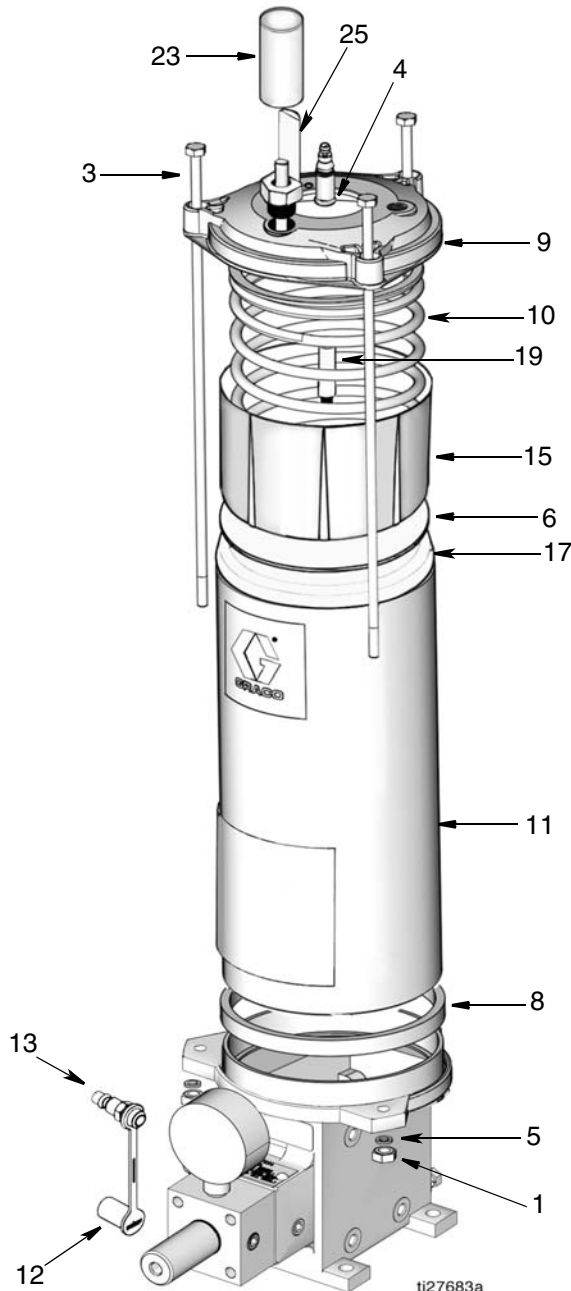

FIG. 11:
Refer to FIG. 11 for reference numbers used in the following instructions.
4. Remove the fill stud (13), if necessary (FIG. 11).
5. Remove hex nuts (1) and lock washers (5) from the tie rods (3) (FIG. 11).
6. Remove tie rods (3) from reservoir cap (9) (FIG. 11).
7. Lift the reservoir (11) from the pump, keeping the reservoir cap (9) in position on top of the tube (FIG. 11).
8. Slide the reservoir (11) away from the reservoir cap (9) until it is free from the follower cups (15 and 17) (FIG. 11).
9. Remove the gasket (8) from the pump (FIG. 11).
Lubricate the follower cups (15 and 17) (FIG. 11) and the inner diameter of the reservoir tube (11) before reassembling the pump assembly with the same lubricant used in the system.
1. Slide the reservoir (11) over the follower cups (15 and 17) upwards until it contacts the reservoir cap (9), being careful not to distort the follower cup lips.
2. Install a new gasket (8) on the pump.
3. Place the reservoir (11) on the gasket (8) and rotate the reservoir cap (9) until the holes in the cap line up with the holes in the pump.
4. Install the tie rods (3) through the holes in the reservoir cap (9) and pump.
5. Install lock washers (5) and hex nuts (1) onto the tie rods (3) and torque to 5 ft-lbs (6.78 N•m).
6. Install the fill stud (13) and dust cap (12) in the pump.